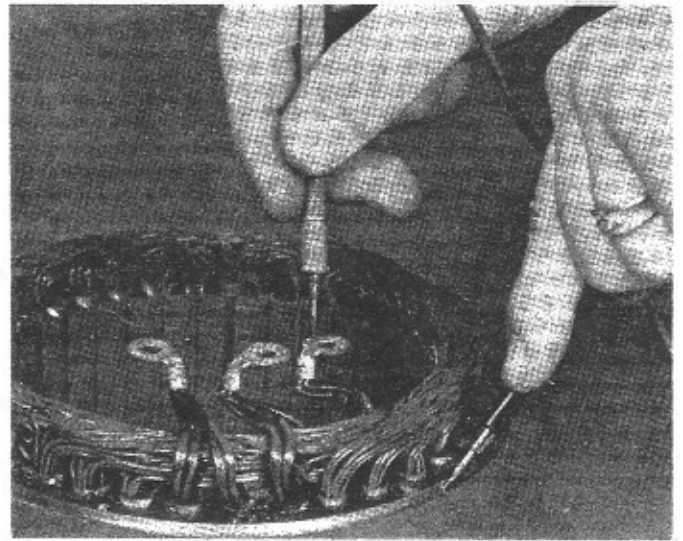

Figure 11
11.1 Connect one test lead to a bare metal surface on stator lamination and connect the second test lead to each of the three stator terminals. Fig. 11.